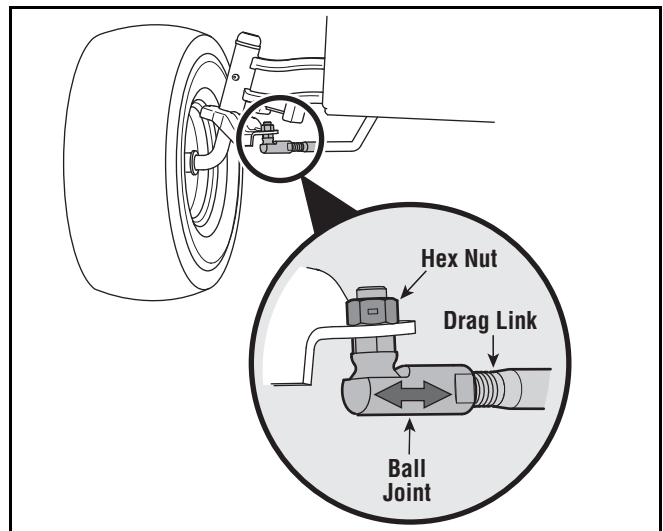

Figure 14
1. Remove the hex nut on the top of ball joint. See Figure 14